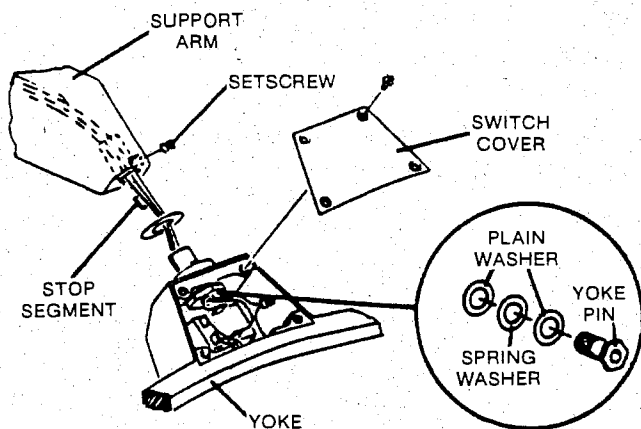

FIGURE 6-4. REMOVING LIGHTHEAD/YOKE
7. Replace lighthead in reverse order of removal. Refer to Figure 6-4 for placement of spring washer. Apply Loctite #222 and tighten yoke pin until rotation drift is eliminated.